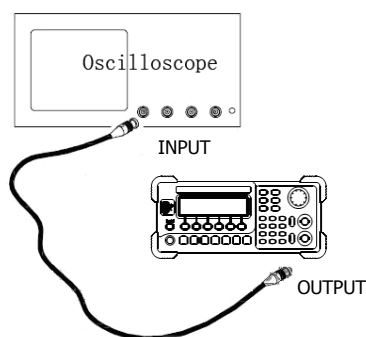

Figure 3-7 Pulse Adjustment Connection
1. Set the sample mode of the oscilloscope as average to measure the pulse width. Set the input impedance of the oscilloscope to 50 Ω (if your oscilloscope does not have a 50 Ω input impedance, use external terminal). The connection schematic diagram is as shown in Figure 3-7.
1. Set the input impedance of the oscilloscope to 50 Ω (if your oscilloscope does not have a 50 Ω input impedance, use external terminal). The connection schematic diagram is as shown in Figure 3-7.